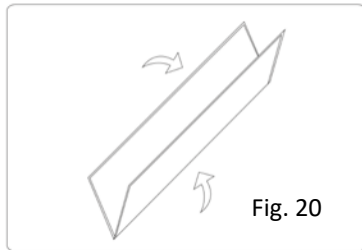

Fig. 20
4. Loosen and remove the ropes, **knob screws (E)** and **eyebolts (F)** from each leg.
6. Remove the frame **legs (B)** from the **folding frame (A)**.
7. Detach the **screen material (D)** from the **folding frame (A)** by carefully unsnapping each button as shown.
8. Fold **screen material (D)** in half, folding the bottom of the screen towards the top. Then, fold in half again in the same way. Lastly, fold the material into thirds to condense the length, see Fig. 20 – 22.